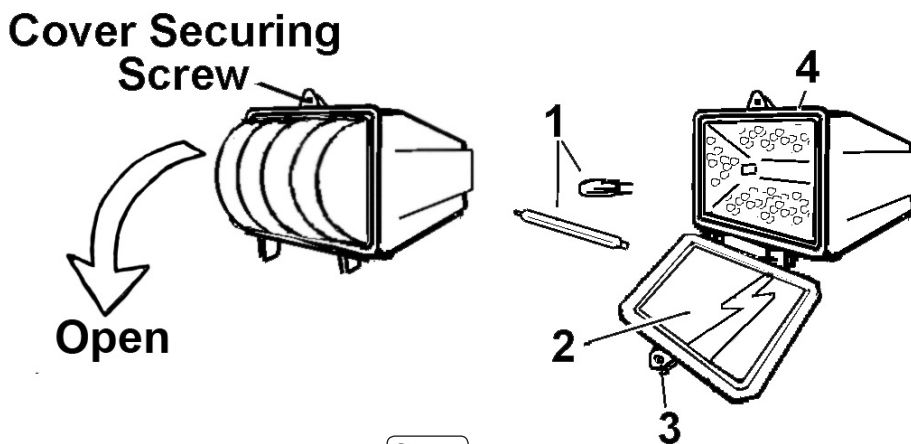

fig.4
3.4.1. Loosen the screw on the top of the front cover and undo (fig.4), allowing the front cover to open. Check to ensure that the screw is retained in the front cover tab (fig.4.3) by the washer.